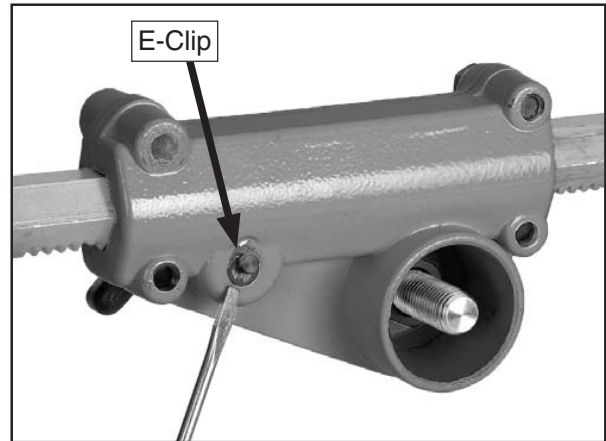

Figure 11. Horizontal crank handle E-clip.
- Place the E-clip on the end of the horizontal crank to retain the crank, as shown in **Figure 11**.